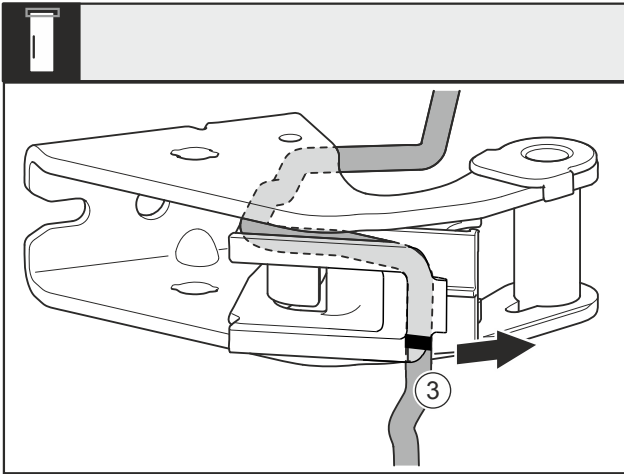

Fig. 22
- ▶ Remove the cable with the cable bracket Fig. 22 (3) from the swap bearing block.